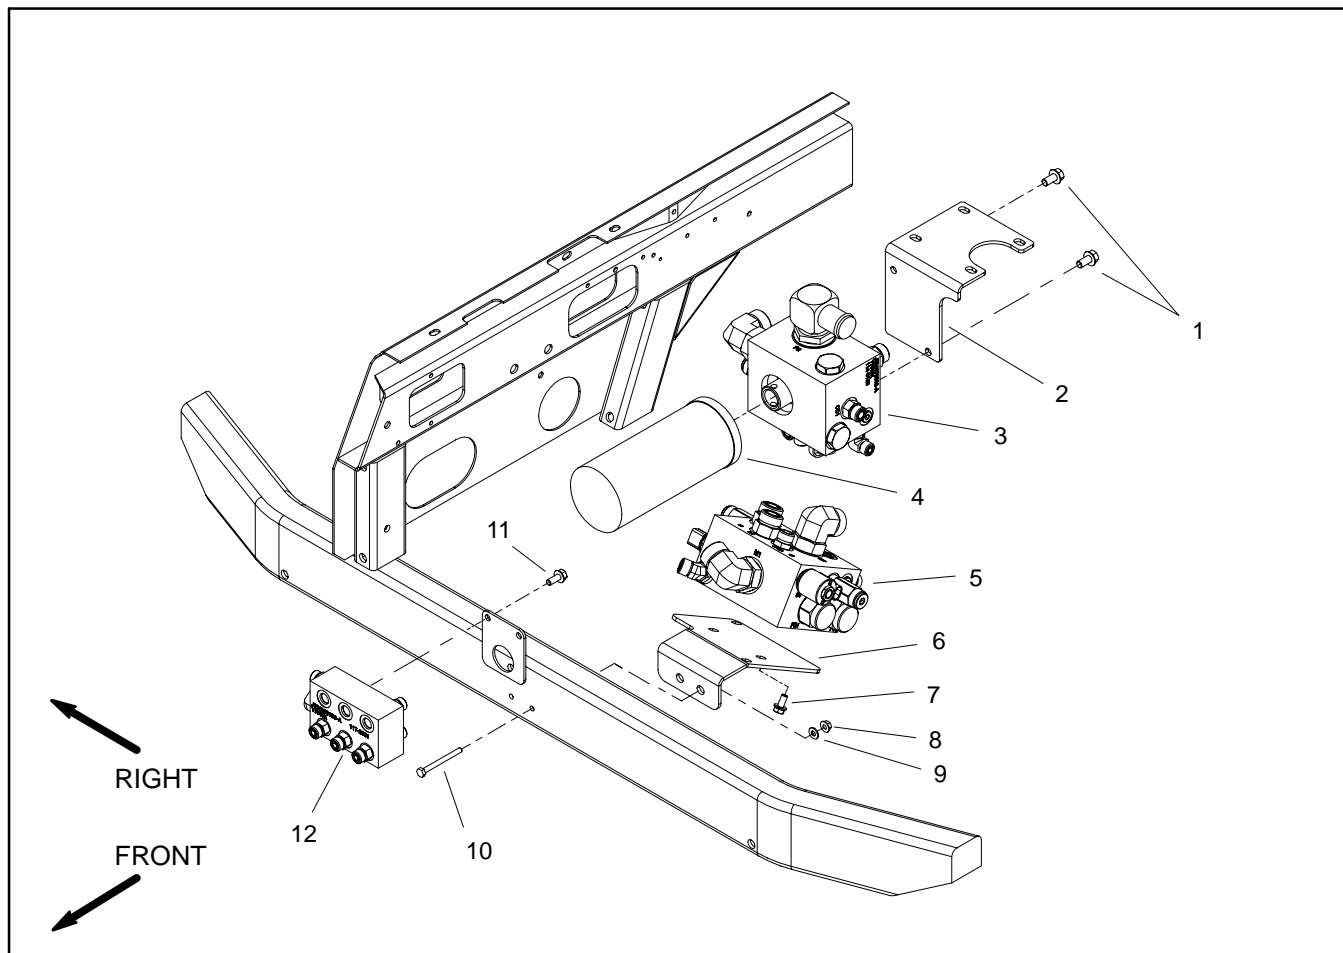

Figure 103
Removal (Fig. 103)
5. Remove hydraulic manifold from the frame using Figure 103 as guide.
Installation (Fig. 103)
2. Install hydraulic manifold to the frame using Figure 103 as guide.